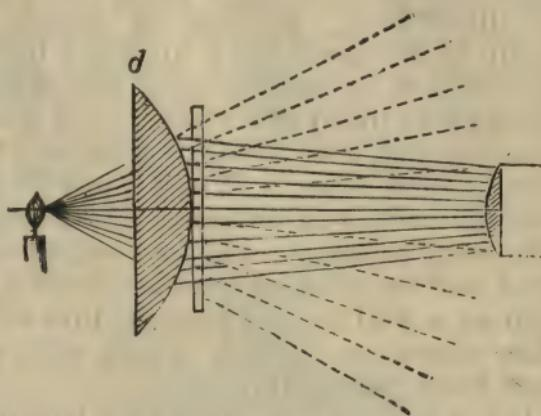

Fig. 7.
optical arrangement of the magic lantern is clearly shown by the diagrams Fig. 6 and Fig. 7. In the first one A is the luminant and B the lantern picture, the projecting lens being indicated at C.
In Fig. 7 we have the same general arrangement of parts, only with the condensing lens (D) inserted; and it will be at once seen what a very important change in the conditions under which the picture is shown has been thus effected. We now see the meaning of the term "condenser," for the rays which were formerly spread out and wasted—their direction is here indicated by the dotted lines—are now *condensed* and bent forward in such a manner that the whole bundle of them is driven through the objective lens.